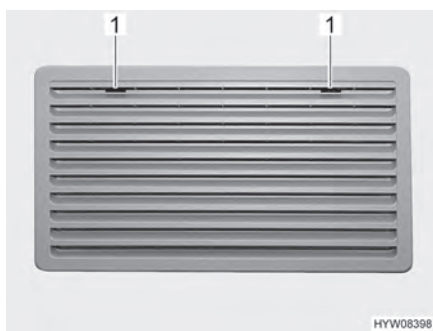
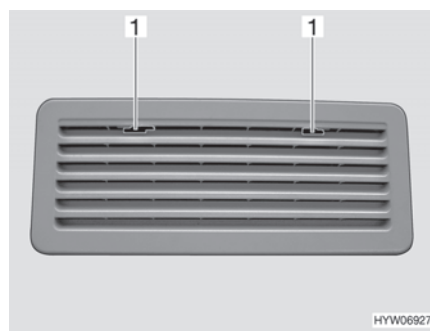

Fig. 121 Refrigerator ventilation grill (Thetford large)
Fig. 122 Refrigerator ventilation grill (Thetford small)
- Move the locking device (Fig. 121,1 or Fig. 122,1) to the middle.